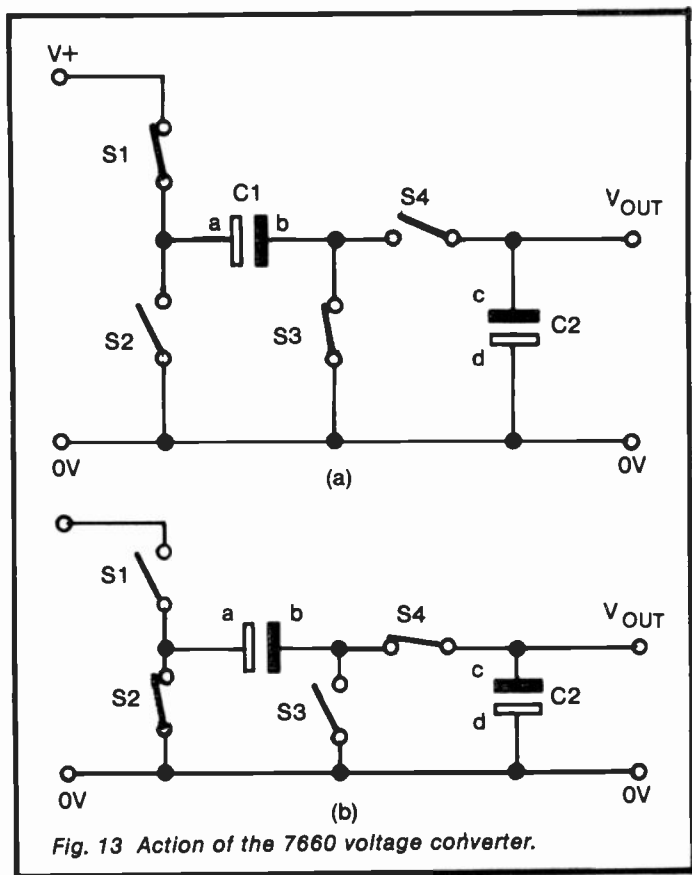

Fig. 13 Action of the 7660 voltage converter.
*How it works:* the circuit is based on the 7660 voltage converter ic. This contains an oscillator operating at about 10kHz. It also contains four MOS power transistors, acting as switches, and a logic network to turn the switches on or off at the correct times. The diagrams in Figure 13 show the circuit with the transistor switches drawn as ordinary switches.